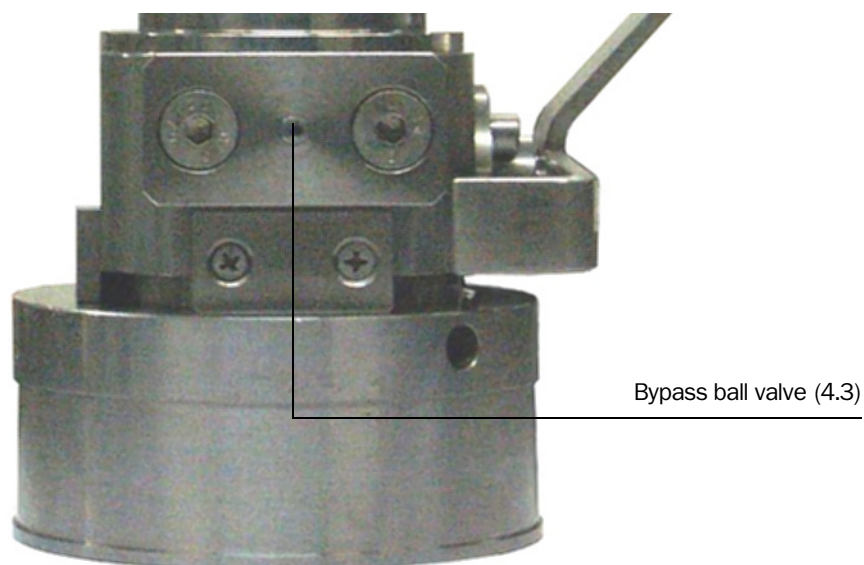

Fig. 2.6: Bypass ball valve (4.3) in the ball valve assembly (4)
A bypass ball valve (4.3) in the ball valve assembly aims to fill the retraction space (5.1) and equalise the pressure on both sides of the ball valve before opening (4) (see **Fig. 2.6**).